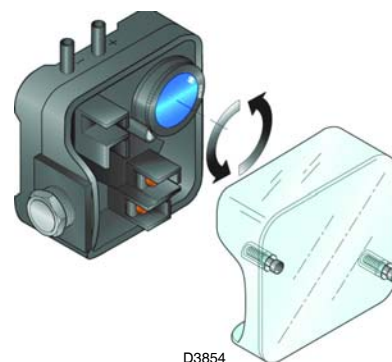

Fig. 46
- Adjust the air pressure switch (Fig. 46) to the start of the scale.
Adjust the air pressure switch (Fig. 46) after having performed all other burner adjustments with the air pressure switch set to the min. of the scale.